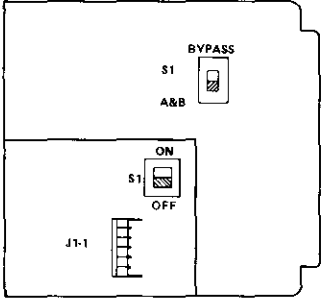

figure 5. Option switch locations
3.06 Two option switches must be set before the 7206A or 7206B can be placed into service and aligned. The locations of these switches on the module's printed circuit board and baby board are shown in figure 5. Switch designations are indicated adjacent to each switch.